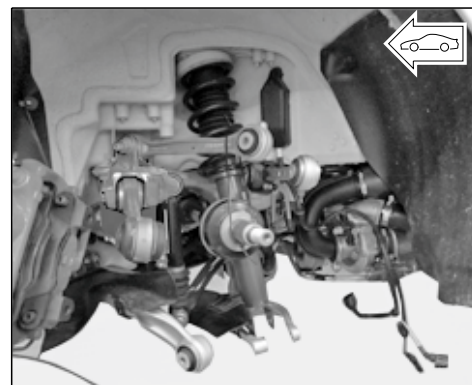

Figure 14
- 2.2.7 Secure the rear-axle drive shaft (at the left ⇒ *Figure 14*/right) with tie-wraps or similar fastening elements in the wheel housing to prevent it from falling down.